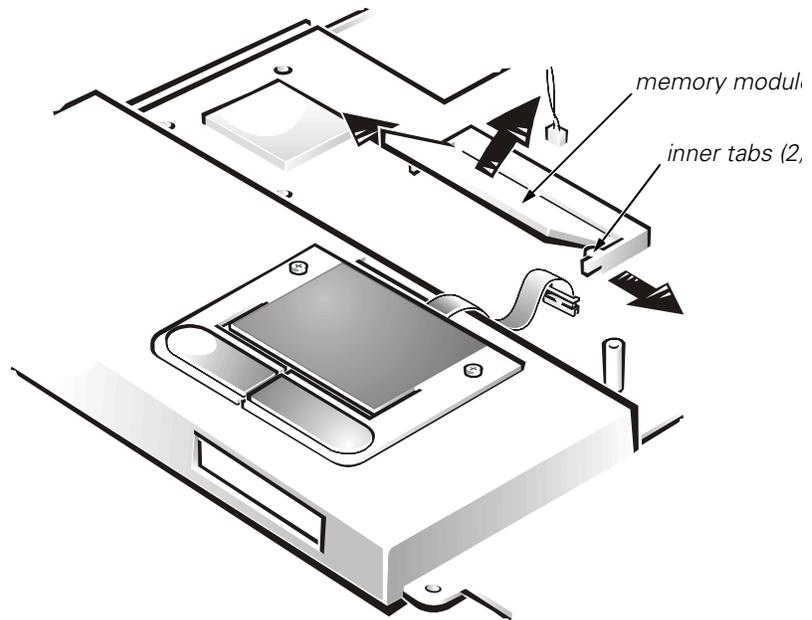

Figure 8. Top Memory Module Removal
5. To release the memory module from its socket, carefully spread apart the inner tabs of the memory module socket just far enough for the memory module to disengage from the socket (it should pop up slightly) (see Figure 8).